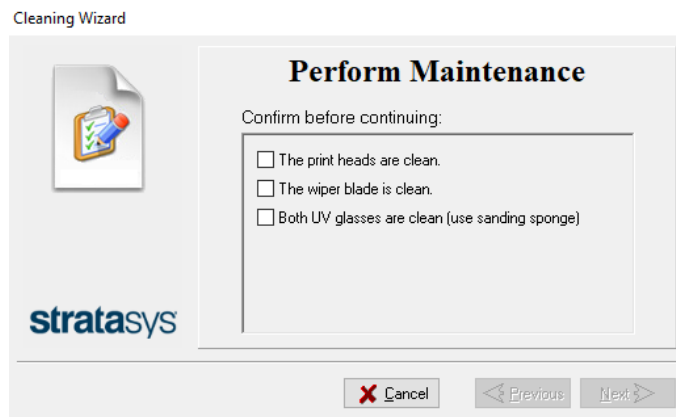

Figure 4-34 Wizard screen during cleaning tasks
14. When you have finished cleaning, select the confirmation check boxes in the wizard screen (see Figure 4-34) and click **Next**.